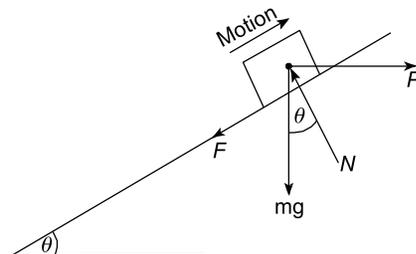

Figure 16.8
This motion, together with the primary forces, is shown in Figure 16.8.
**Problem 9.** If the mass of Problem 7 were subjected to a horizontal force  $P$ , as shown in Figure 16.8, determine the value of  $P$  that will just cause motion up the plane.
9. Determine  $P$  for Problem 5, if it were acting in the direction shown in Figure 16.8. [ $P = 438.6 \text{ N}$ ]